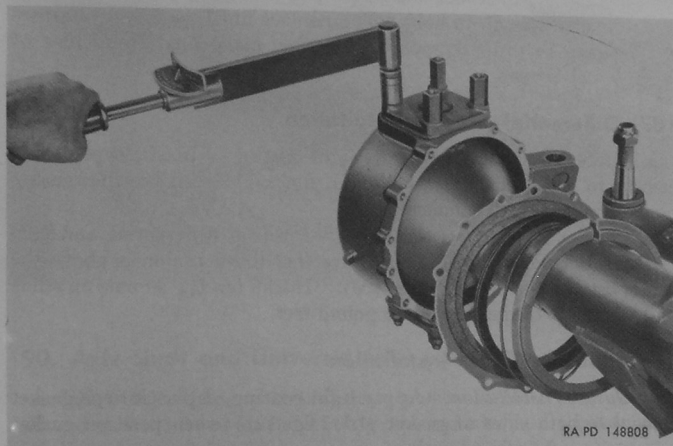

Figure 129. Checking steering knuckle trunnion support bearing adjustment.
d. Trunnion Bearing Adjustment.—Tighten spacers or nuts ((P) and (N), fig. 109) attaching steering knuckle trunnions or steering arm to steering knuckle support to torque of 70 to 80 pound-feet. Use torque wrench as illustrated in figure 129 and measure pound-